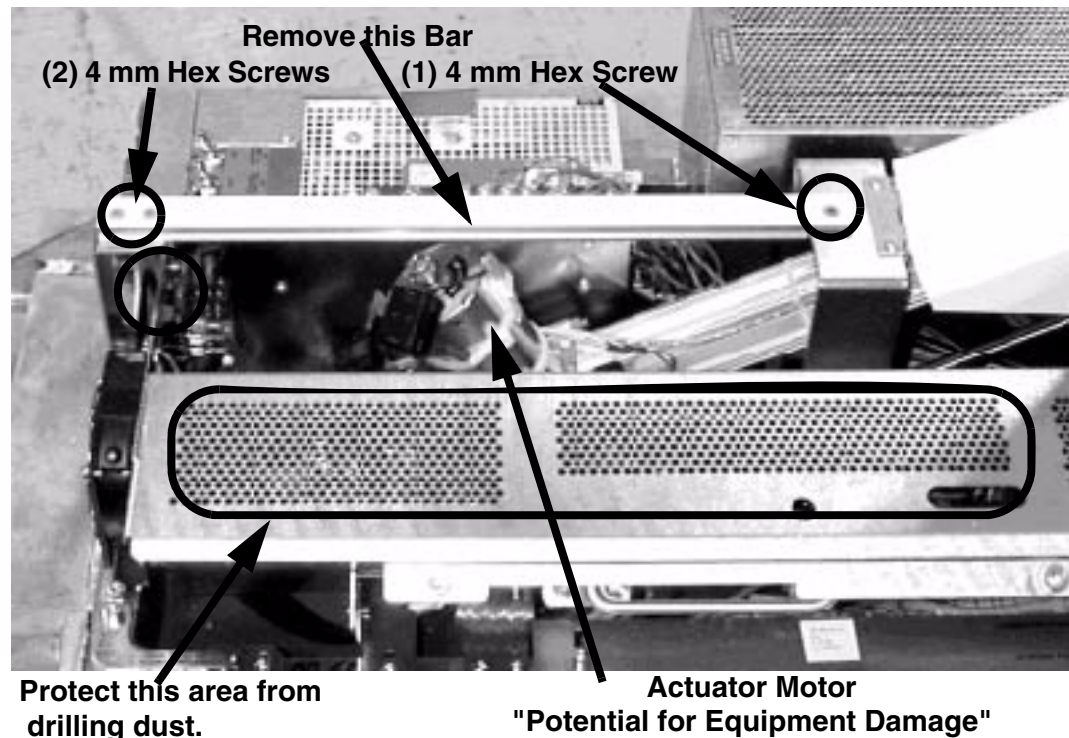

Figure 1-18 Center Support Bar
- 6.) Remove the table base cover center support bar (see Figure 1-18).